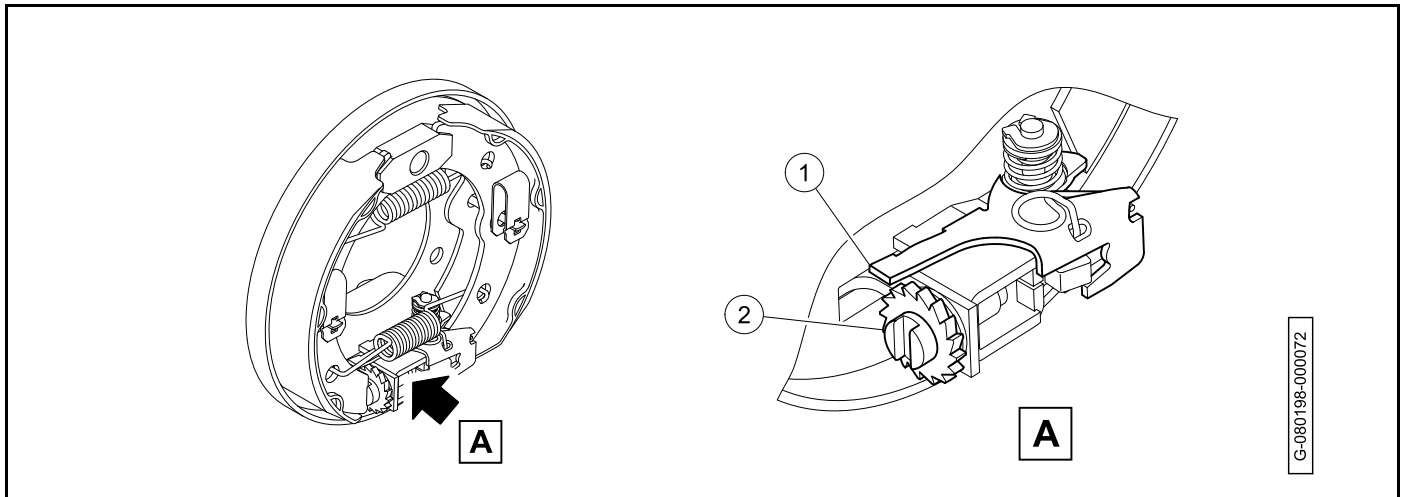

Figure 6-15
10. Use a flatblade screwdriver to lift the adjusting arm (1) off of the adjusting wheel (2) (Figure 6-15).